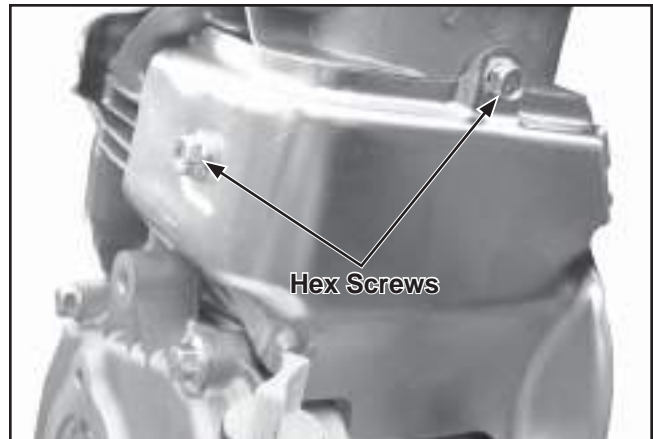

**Figure 9-21. Remove CH270 Upper Shield Hex Flange Screws.**
3. Remove the hex flange screws securing the upper shield and remove the shield. See Figures 9-21 or 9-22.